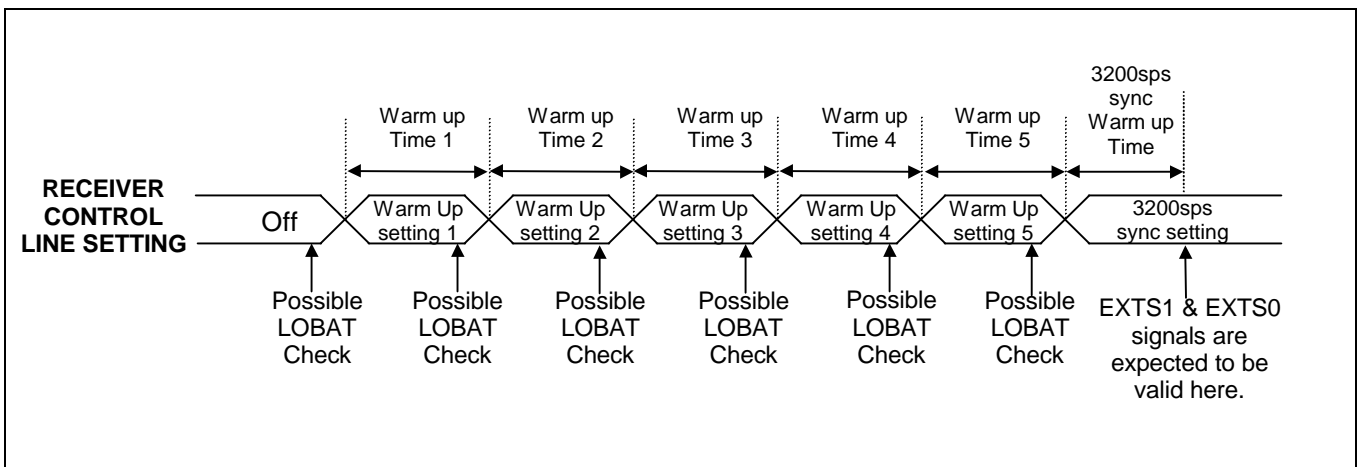

Figure 12: Host Initiated Receiver Warm Up Sequence
The host can cause the KS8701 to warm-up the receiver in three ways: (1) by turning on KS8701 by setting the **ON** bit in the control packet; (2) by requesting a noise detect by setting the **SND** bit in the roaming control packet; or (3) by requesting an A-word search by setting the **SAS** bit in the roaming control packet. When the KS8701 warms up the receiver in response to a host request, the first warm up setting, if enabled, is applied to the receiver control lines for the amount of time programmed for that setting. Each subsequent warm up setting is applied to the receiver control lines for their corresponding time until a disabled warm up setting is found. Once a disabled warm up setting is found, the “3200sps Sync Setting” (for **ON** and **SND** warm ups) or the “1600sps Sync Setting” (for **SAS** warm ups) is applied to the receiver control lines and the decoder does not expect valid signal until after the “3200sps Sync Warm Up Time” (for **ON**, **SND**, and **SAS** warm ups) has expired. In figure 12 on page 56 the receiver warm up sequence when the host initiates a warm-up sequence and when all warm up settings are enabled is shown.